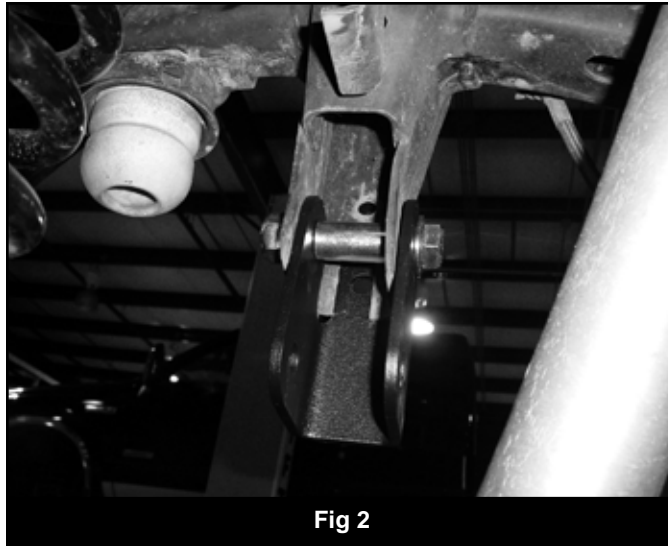

Fig 2
6. Reinstall the track bar bracket with the 9/16" hardware along with the provided crush sleeve (48) inside the factory mount. Run the bolt through the new bracket, OE mount and sleeve (Fig 2). Leave hardware loose.